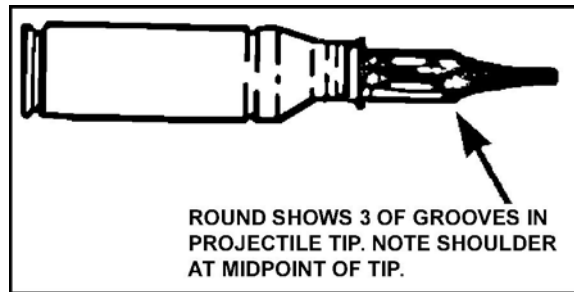

Figure 2. AP round.
- b. Inspect the ammunition to ensure it is serviceable. Clean as necessary and align rounds (Figure 2).